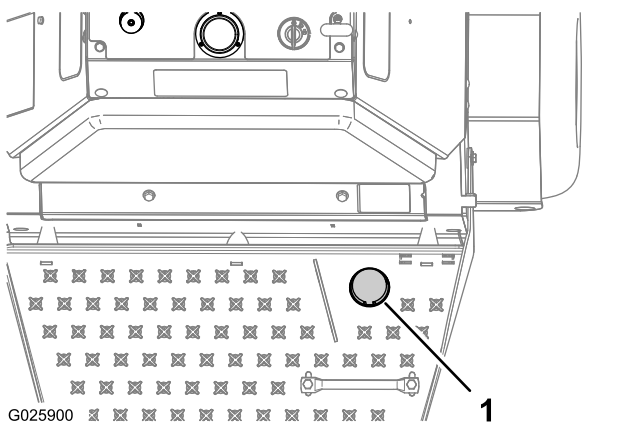

Figure 16
2. Step on the tine-elevation switch to lower the tines (Figure 16).
3. Stand on the switch and move the traction-control levers forward to aerate (Figure 16); refer to Traction-Control Levers \(page 15\).
To raise the tines, remove your foot from the tine-elevation switch (Figure 16).